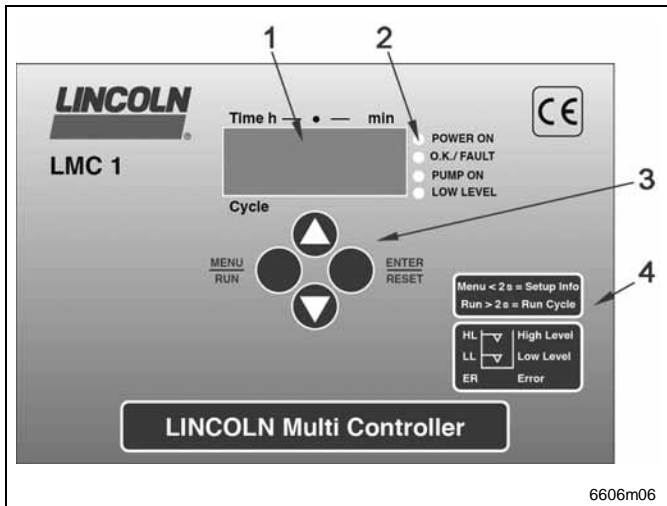
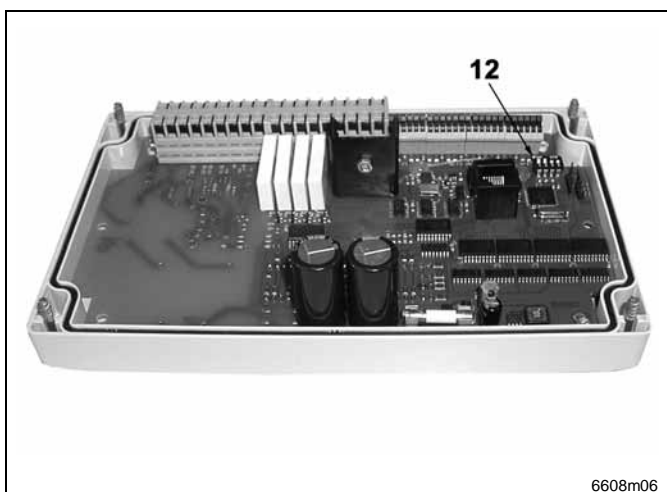

Fig. 1 LMC 1 membrane keypad
Fig. 2 The LMC 1 control p.c.b. (VDC)
- t - PS ..... (P)ause time
- The lubrication system and defaults for its parameters can be set (UP & DOWN keys, pos. 3, Fig. 1) using the DIP-switches (SW1, SW2, SW3 & SW4, pos. 12, Fig. 2)